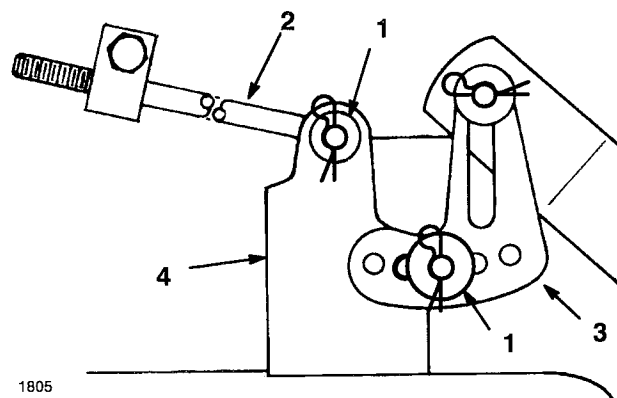

Figure 41
9. Remove the hairpin cotter and washer from the end of the long rod (Fig. 41). Slide the rod out of the mower mount.
10. Remove the hairpin cotter and washer at the mower leveling bracket (Fig. 41). Slide the bracket off the mounting pin. Re-install the washer and hairpin cotter for storage.